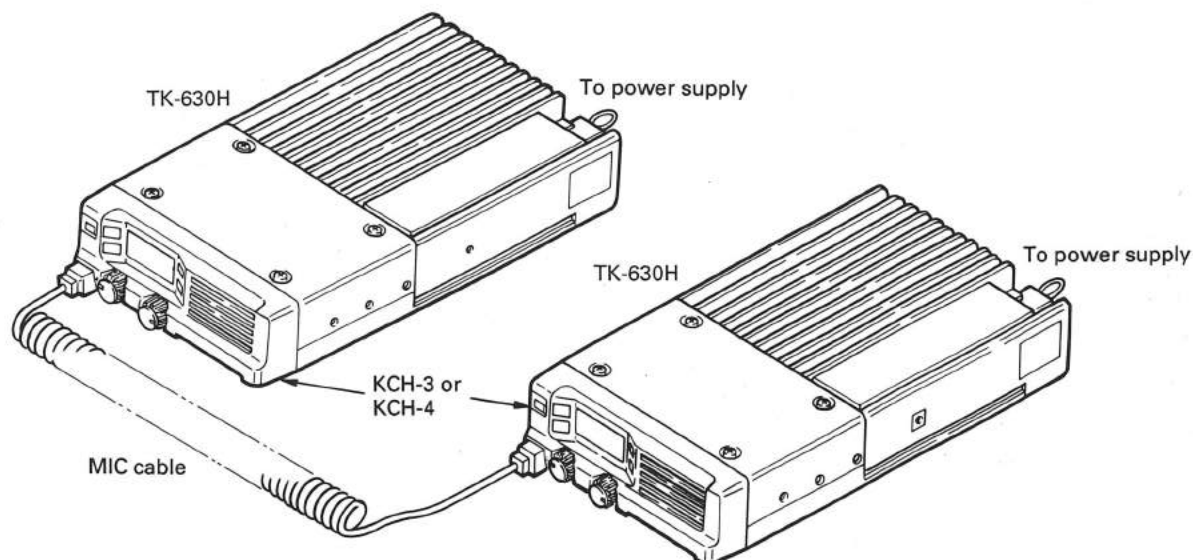

Fig. 4
2. Connect the master and slave units with a microphone cable. (See Figure 4.)